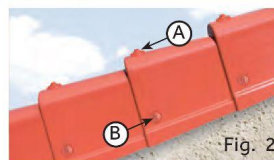

Fig. 2
- fix the flashing to the sheet on each wave with the CO00N cap (see Fig. 2, detail A);
- the flashing must also be fixed on the vertical wall using the flat caps (see Fig. 2, detail B).